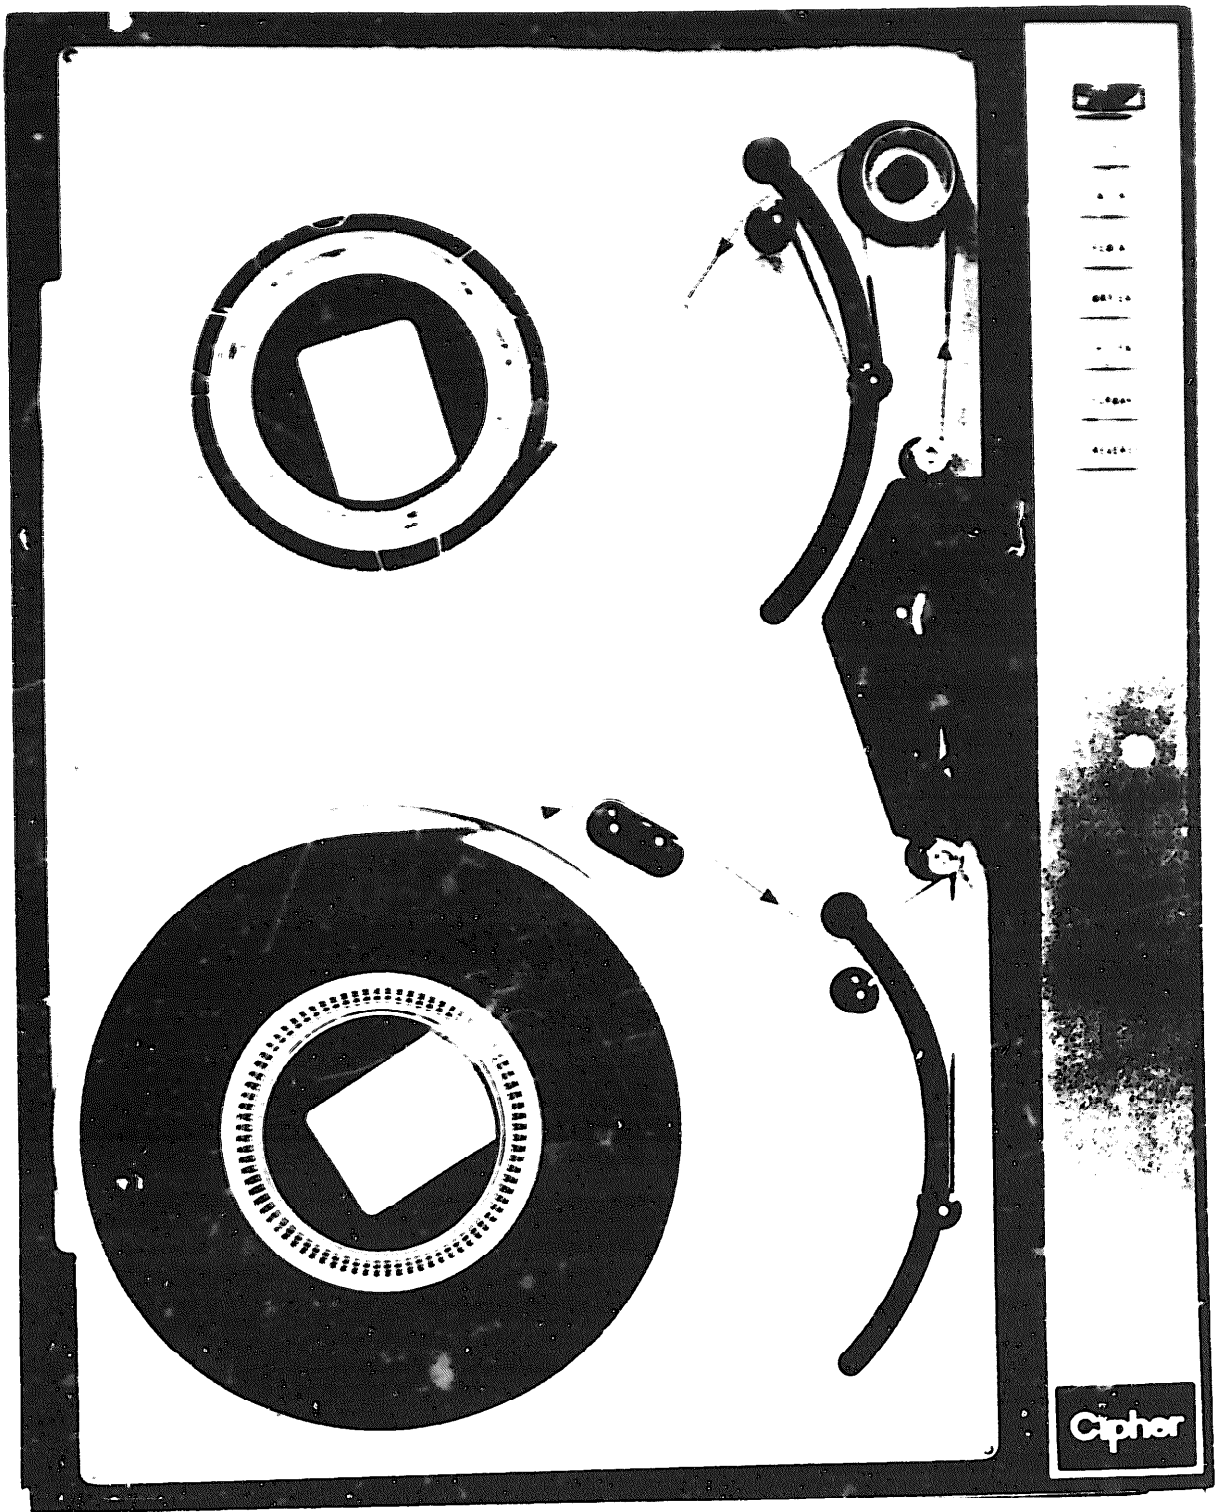

Figure 3-3. Operating Configuration (Tape Tensioned)
- f. Actuate LOAD pushbutton and observe that tape is tensioned. (See Figure 3-3. The delay at this point is required to allow the arm retractor mechanism to clear the compliance arms. Actuate LOAD pushbutton again. Tape will advance until BOT tab is positioned at photosensor. LOAD indicator will light indicating recorder is ready for use.